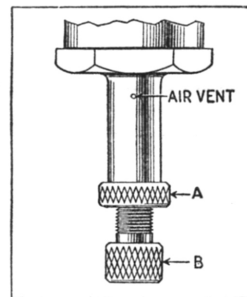

Fig. 1
- a. Loosen the lock nut A, Fig. 1, and turn the adjusting screw B to the right until proper cushioning has been secured.
6. If the lid does not shut entirely, or if it shuts too slowly, insert a small wire or any pointed metal implement into the air vent, Fig. 1. This will remove any dirt that may be clogging the vent.